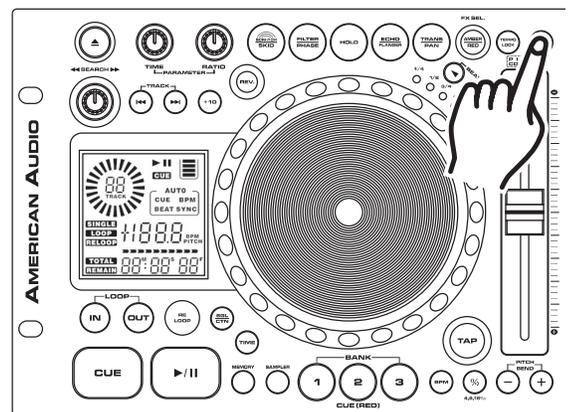

Figure 40
Using the Pitch Slider Percentage Selector (27): You may choose a pitch operating range at any time. To change the operating range be sure the pitch function is turned on, see figure 40. The pitch percentage can be changed between +/-4%, +/-8%, +/-16%, and +/- 100%. 4% will allow the least amount of pitch manipulation and 100% will allow the most amount of pitch manipulation. To adjust the different values, press the **PITCH ON/OFF BUTTON (17)** and Tap on the **% BUTTON (27)** until your desired value is reached. The L.E.D. of the **% BUTTON (27)**; glowing red for 4%, flashing red for 8%, glowing blue for 16% or flashing blue for 100%.